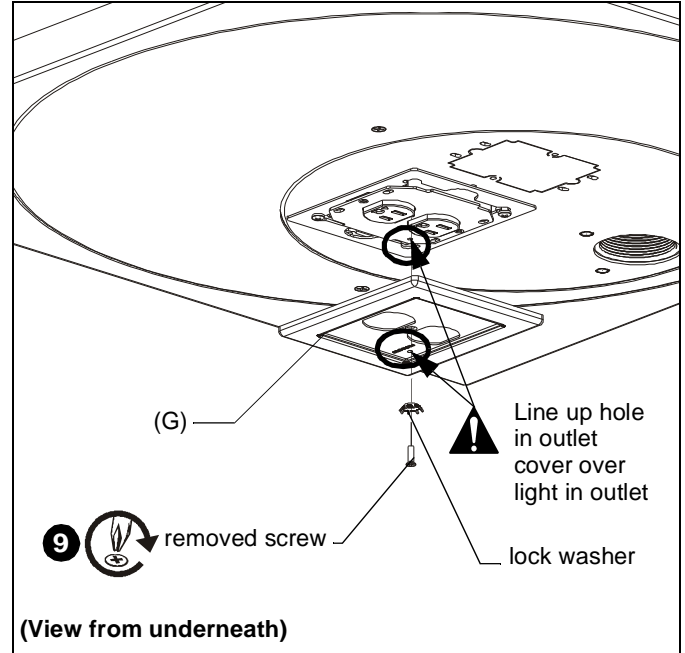

Figure 6
10. Install outlet cover (G) over outlet box using removed #06-32 x 1/2" Phillips flat head screw and #06 lock washer. (See Figure 6)